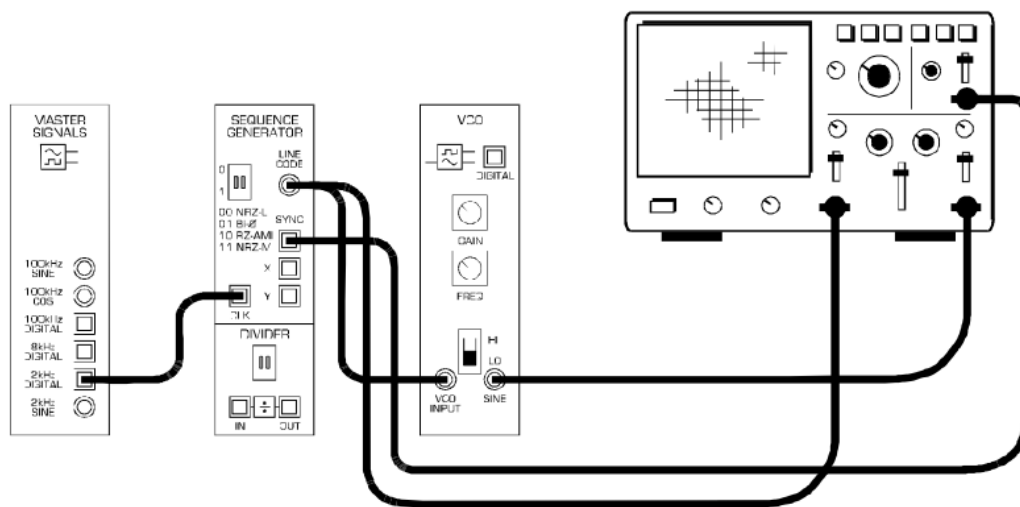
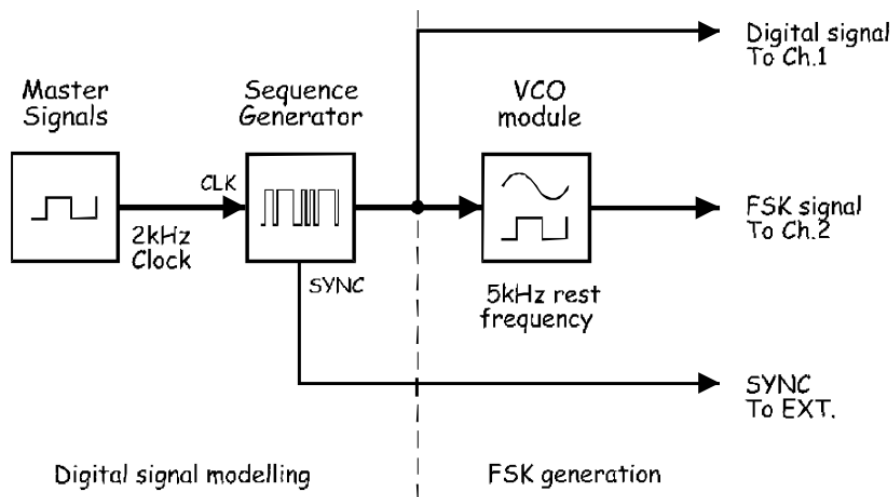

Figure 23:
Figure 24:
- Connect the setup as shown in Figure 23.
- The setup shown in Figure 23 can be represented by the block diagram seen in Figure 24. The Sequence Generator module is used to model a digital signal and its SYNC output is used to trigger the scope to provide a stable display. The VCO module is used to generate the FSK signal.